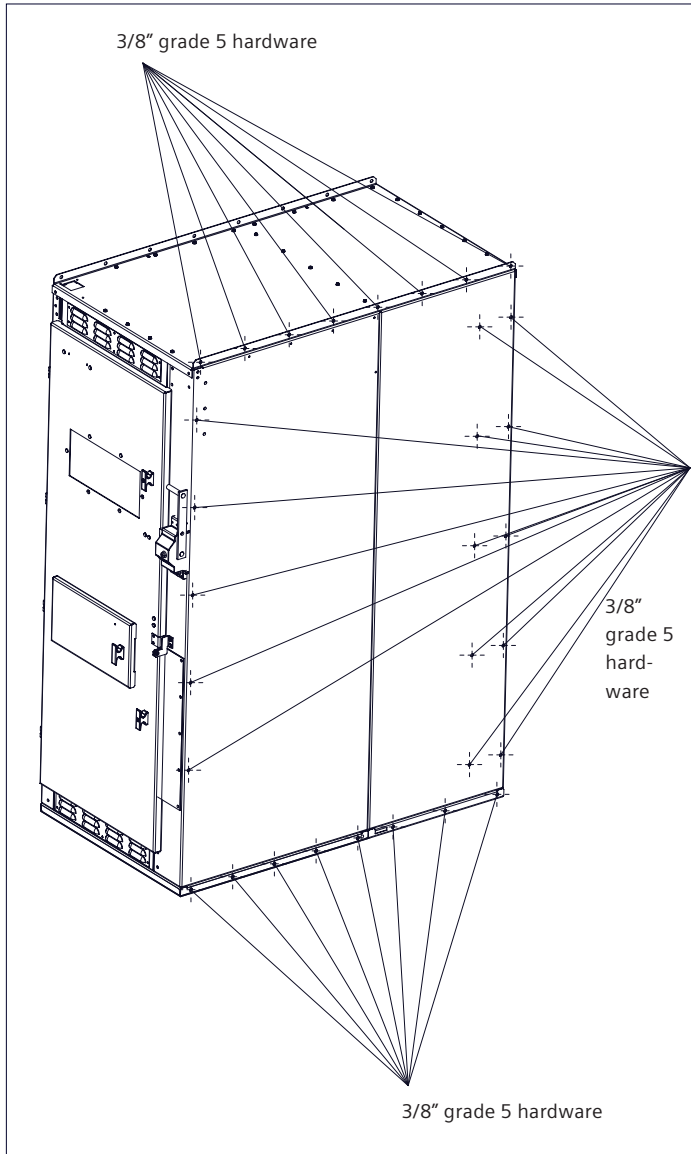

Figure 13: Inter-unit bolting locations
Indoor switchgear shipping groups are held in true alignment by bolts holding the vertical sections to each other. Figure 13 above shows the location of the inter-unit fasteners used to attach sections together.
Check that the cubicles are in firm contact with the supports and anchor points and that bolt holes for interconnections (refer to Figure 13: Inter-unit bolting locations) are in alignment on page 24. Repeat steps 3 to 5 and install all interconnection hardware.
7. Install interconnections hardware (refer to Figure 13: Inter-unit bolting locations on page 24.) Access to the hardware for the front roof-panel supports is through the opening available with the removal of the vented front cover in step 5.